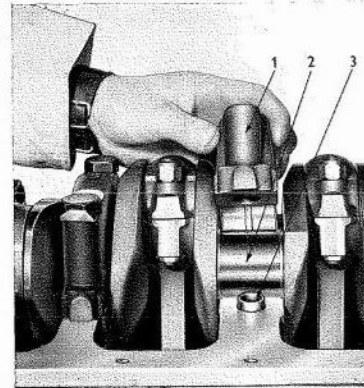

Fig. L.3.
8. Replace the cap, using new locking tab-washers and tighten the set-screws lightly before proceeding to the next bearing. See Fig. L.3.